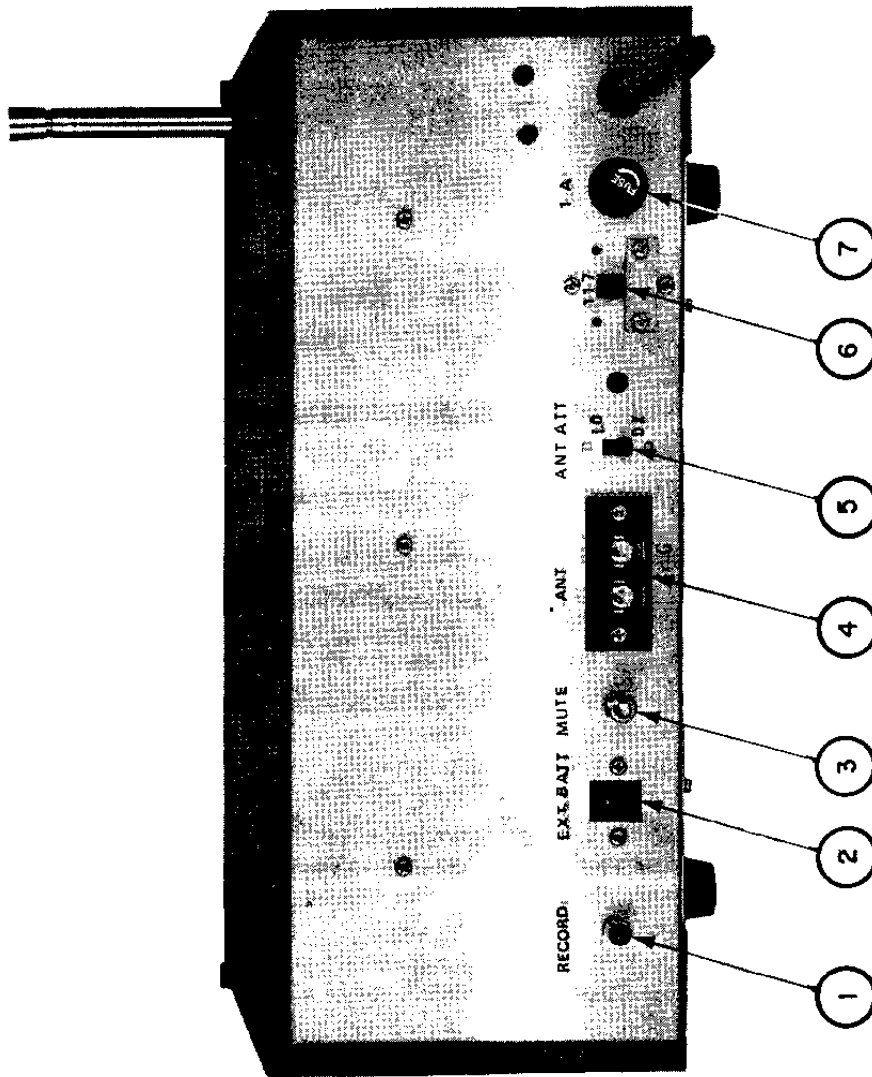

FIG. 2
The SSR-1 will operate from its internal battery supply, external 12 V DC supply or from a 117 volt or 240 volt AC line. The receivers are wired at the factory for 117 volt and 240 volt operation. Proper voltage is obtained by the switch at the rear panel (see 6 Fig. 2). This switch is locked in either the 117 V or 234 V position and can be changed by removing the two (2) screws holding the lock bar and putting the switch in the desired position.